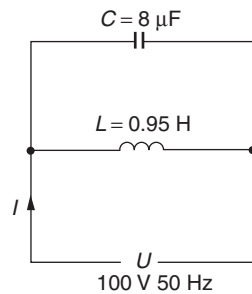

Fig. 60
8. The resultant current I in Figure 60 is